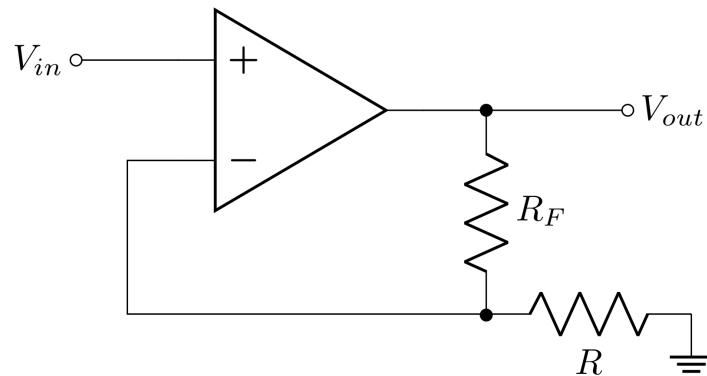

Figure 2: Non-inverting amplifier
Two basic op-amp circuit configurations, the non-inverting amplifier and the inverting amplifier, are shown in Figures 2 and 3, respectively. Both circuits use **negative feedback**, which means that a portion of the output signal is sent back to the negative input of the op-amp through the feedback resistor R_F . The op-amp itself has very high gain, but relatively poor gain stability and linearity. When negative feedback is used, the circuit gain is greatly reduced, but it becomes very stable. Also, linearity is improved, and the output impedance decreases.
1. Calculate the values of the low frequency gain G_0 and bandwidth f_B for the non-inverting amplifier in Figure 2 for the following two circuits you will build in lab.